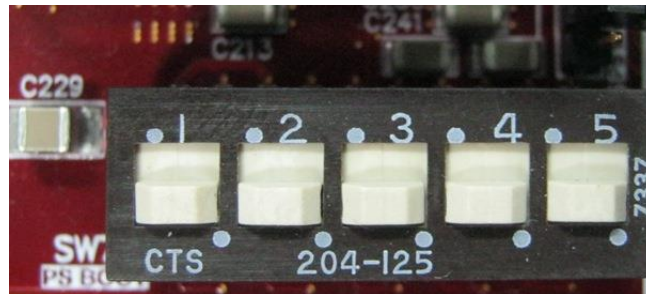

Figure 2-4 SW7 setting to configure PS from JTAG on Zynq Mini-ITX
- i. Set SW7="00000" to configure PS from JTAG, as shown in Figure 2-4.